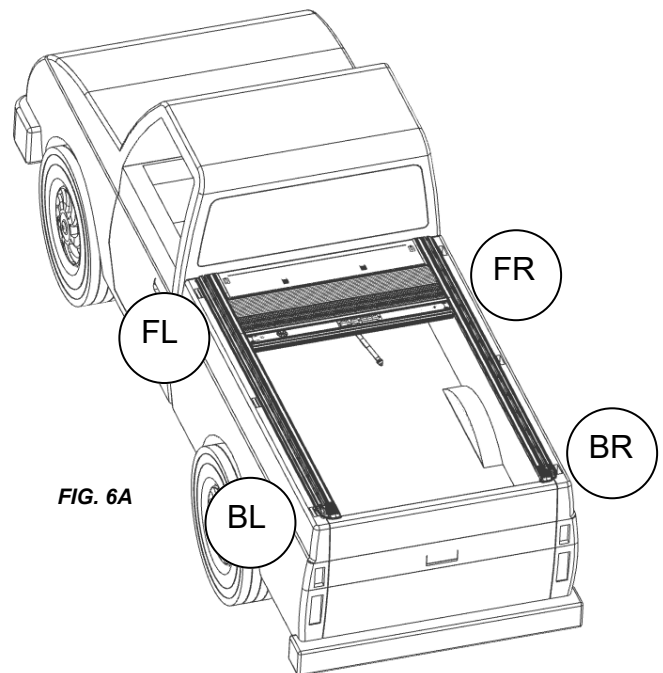

FIG. 6A
Slide the clamp extensions on the tailgate and cab end of each rail as pictured in Figure 6A-6E. Ensure that your tailgate end and cab end extensions are in the correct orientation and have the correct stick on shims. Each clamp extension is labeled for front left (FL), front right (FR), back left (BL), and back right (BR). The extensions go on the corners shown in Figure 6A.